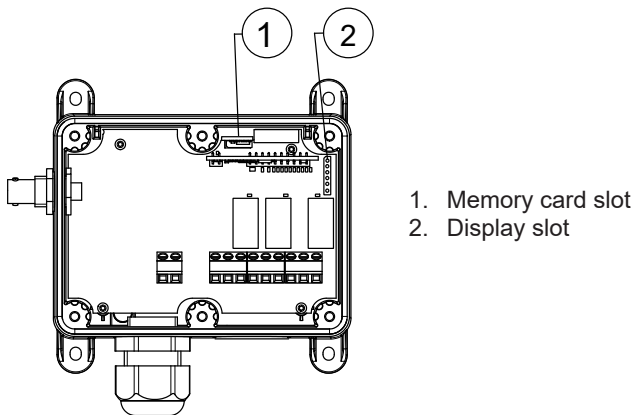

Figure 6. Memory card and display slots in the Range Extender
4. Insert the memory card that you want to copy in the memory card slot in the Range Extender (see Figure 6).
5. Mount the display card in the display card slot (see Figure 6).
4. Insert the memory card that you want to copy all parameters to in the memory card slot (see Figure 6).
5. Mount the display board in the display board slot (see Figure 6).